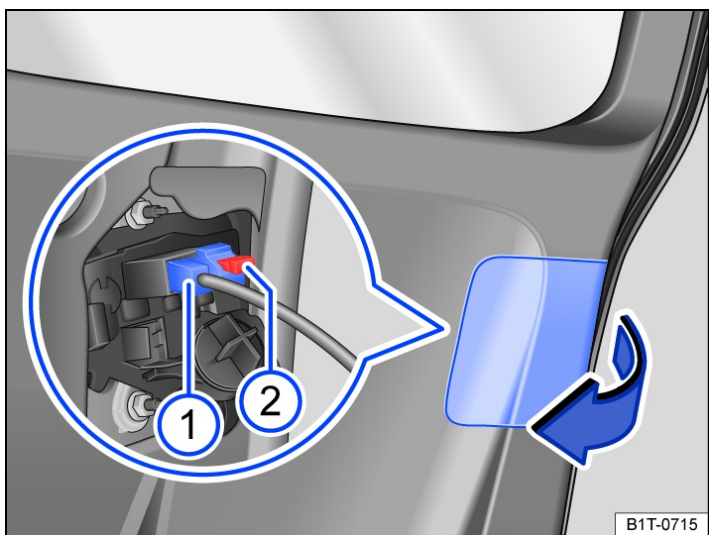

Fig. 1 In the trunk lid: removing the cover.
- ① Catch for taillight bulb holder.
- ② Catch for taillight bulb holder.
- ③ Catch for taillight bulb holder.
- ④ Bulb holder for back-up light.
1. If necessary, carefully lever off the cover in the direction of the arrow with the flat edge of a screwdriver → *fig. 1*.
2. Remove the fuse → *fig. 1* ①. Press the red catch of the connector and unplug the connector → *fig. 1* ②.